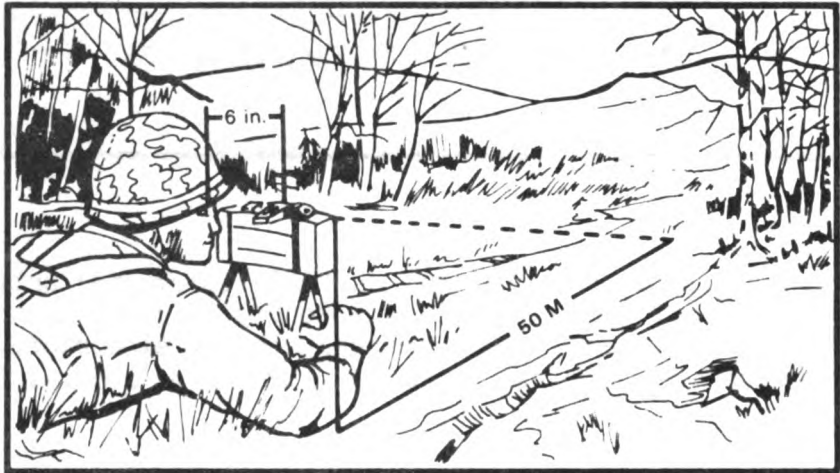

Figure 1
- (1) Check to see that the mine and all accessories are in the bandoleer.
- (2) Remove the electrical firing wire, leaving the mine and other accessories in the bandoleer.
- (3) Secure the shorting plug end at the firing position. Place the bandoleer on your shoulder and unroll firing wire to the position selected for emplacing the mine.
- (4) Remove the mine from the bandoleer and position it with the surface marked "FRONT TOWARD ENEMY" and the arrows on top of the mine pointing in the direction of the enemy or the desired area of fire.
- b. Aiming (fig. 1). Select an aiming point at ground level that is about 50 meters in front of the mine. Aim the mine by aligning the two edges of the sight with the aiming point (fig. 1).